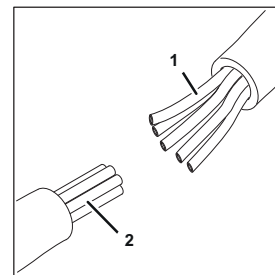

Fig. 8
8. Connect all tubes (Fig. 8/1) to the python (Fig. 8/2).